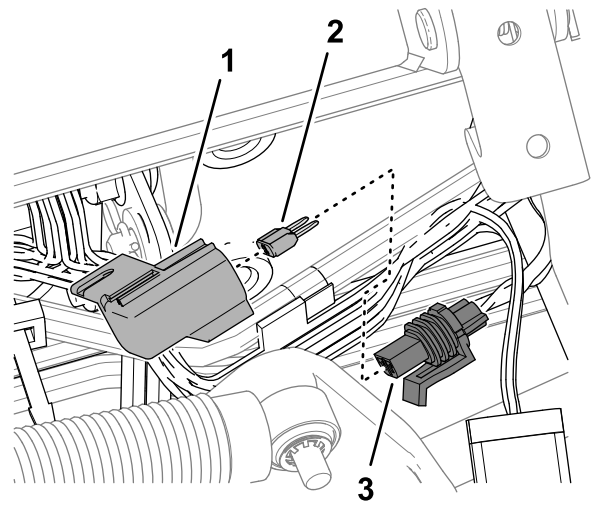

Figure 98
3. Remove the cap from the in-line fuse holder labeled 10 A FUSE TELEMATIC PWR (Figure 98).